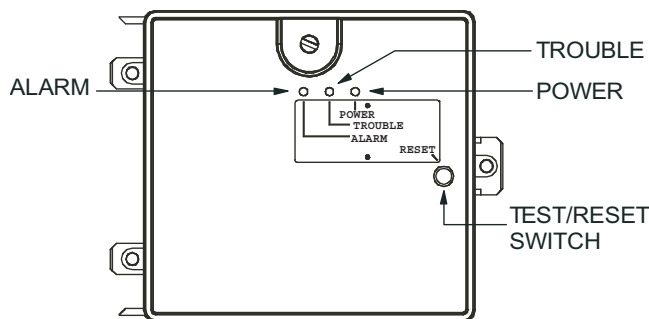

Fig. 49 — Controller Assembly
- The contacts on the controller’s supervisory relay switch positions. (See Fig. 49.)